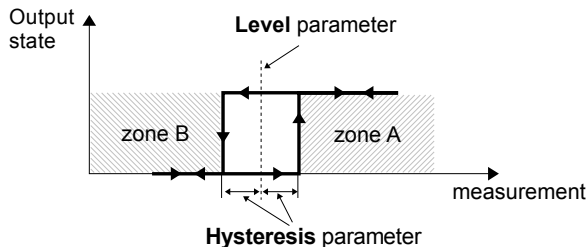

Fig. 7.97. One threshold control of the relay outputs
- **Mode** – this parameter allows the user to select the method of the external output operation depending on the source signal (**Source** parameter); it has the following options (see **Fig. 7.97** and **Fig. 7.98**):
Levels parameter block (see Fig. 7.97, Fig. 7.98 and Fig. 7.99)